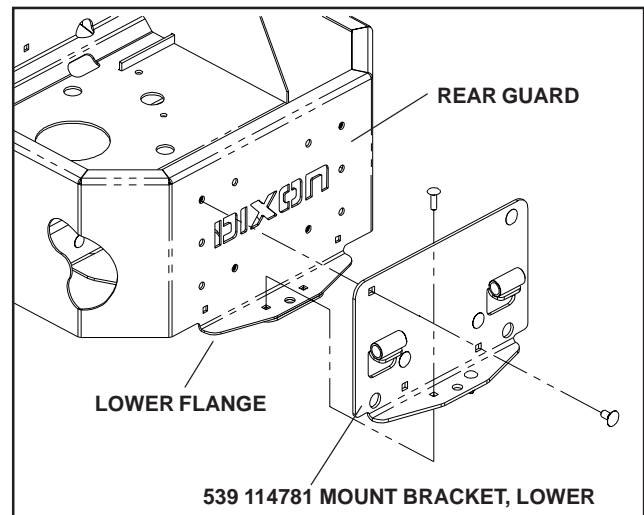

FIGURE 1
3. Place (539 114781) Mount Bracket, Lower in place and secure using four (539 111785) 3/8 x 3/4 carriage bolts, four (539 976979) 3/8 nyloc hex nut and two (539 107271) 5/16 x 1 carriage bolts. Reuse the two 5/16 nyloc hex nuts previously removed from the 5/16 x 3/4 carriage bolts. See Figure 1.